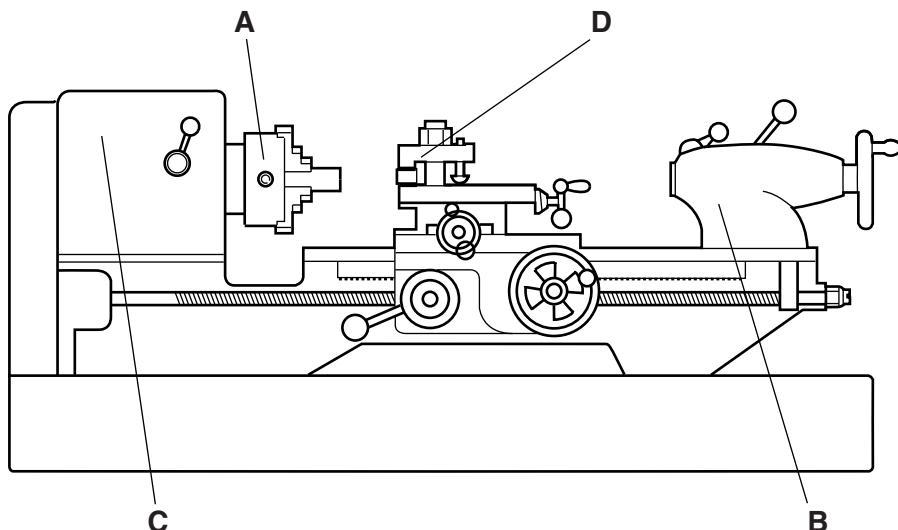

Fig. 4
- (b) Fig. 4 shows a centre lathe.
- (i) Name the **four** parts of the centre lathe labelled in Fig. 4.